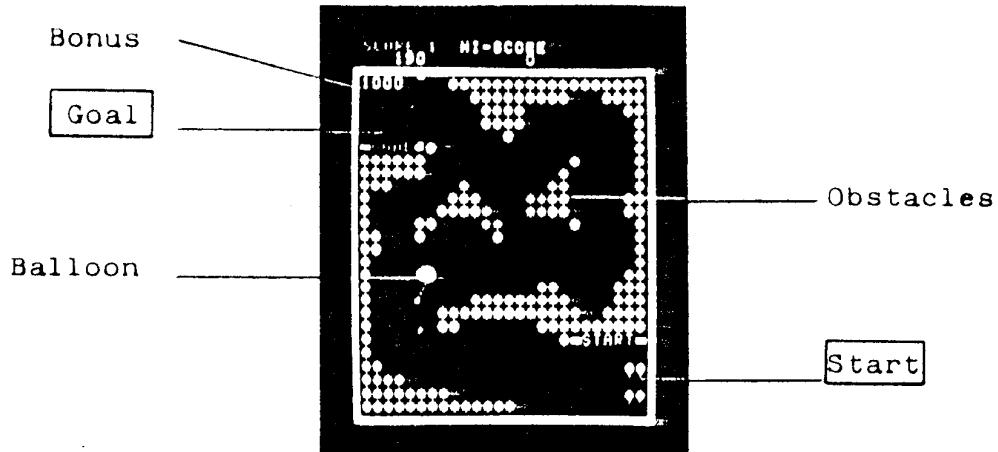

Fig. 3
- o After the game-start music is heard, play begins with the picture shown in Fig. 3.